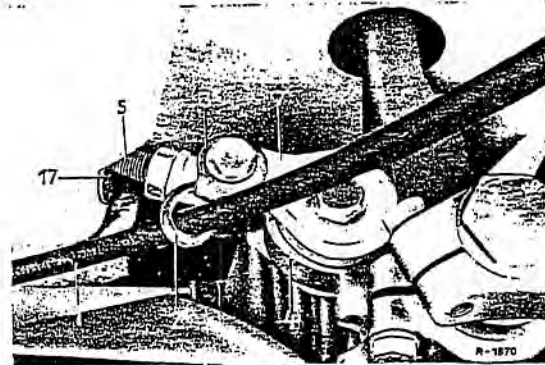

Fig. 42-19/2a
7. Loosen the hexagon collar nut (7) which secures the cable guide, remove the cables from the brackets (8) and detach them from the equalizer (2) (see Fig. 42-19/1).